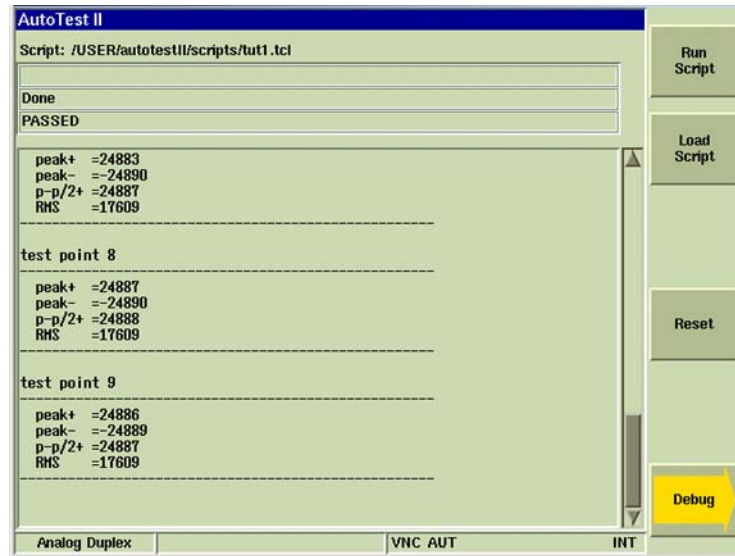

Fig. 6-11 AutoTest - Complete
7. Data displayed at the completion of a test script is also dependent on the commands included in the script. Fig. 6-11 shows the screen configured to display Done in the second information field and test status (PASSED) in the third information field.